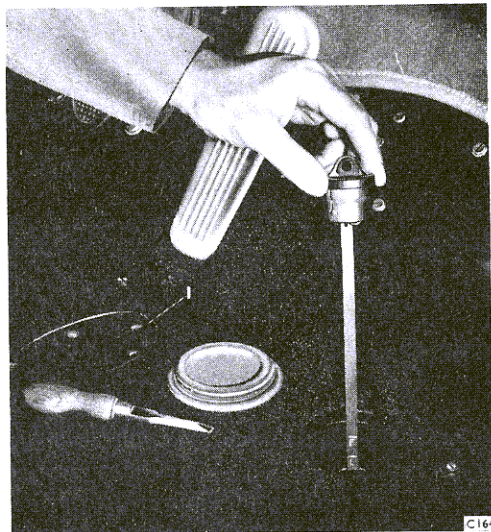

Fig. 21 Checking the oil level
- 3 Remove and clean the dipstick before checking the oil level (see Fig. 21).